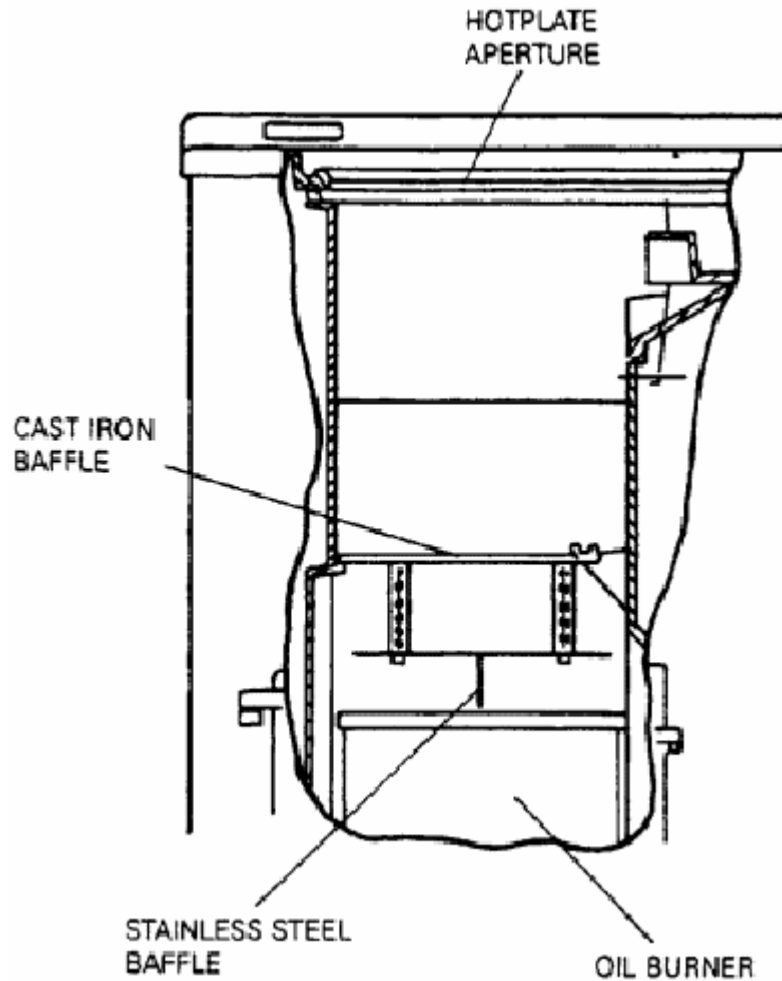

Fig.9 Boiler Model Only
8. Place and locate the cast-iron baffle and stainless steel baffle assembly as per Fig.9 through the hotplate aperture. Replace the hotplate with the fins over the oil burner position.